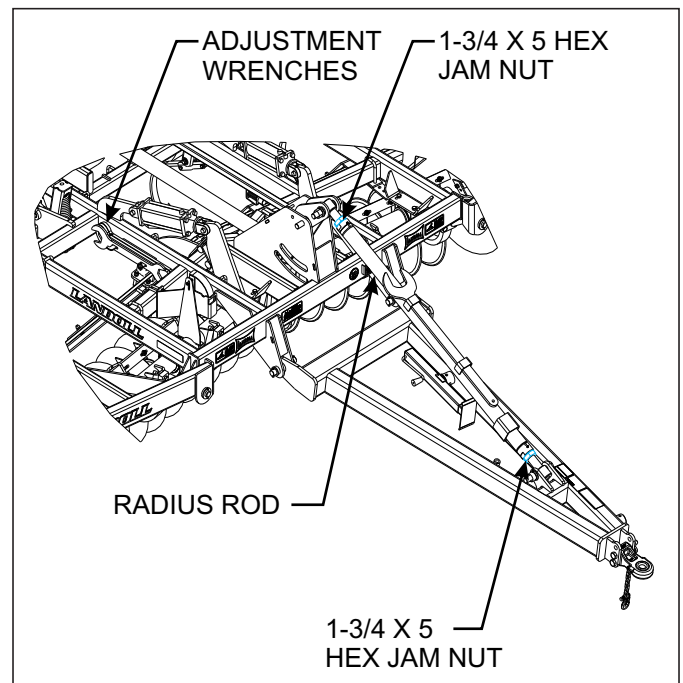

Figure 4-9: Radius Rod Adjustment
- To adjust the Finisholl hitch height, loosen the locking jam nuts on each end of the adjustable radius rod located above the hitch *See Figure 4-9*. Wrenches are stored on the center frame and radius rod to make this adjustment. Extend or retract the radius rod to obtain the desired hitch height.